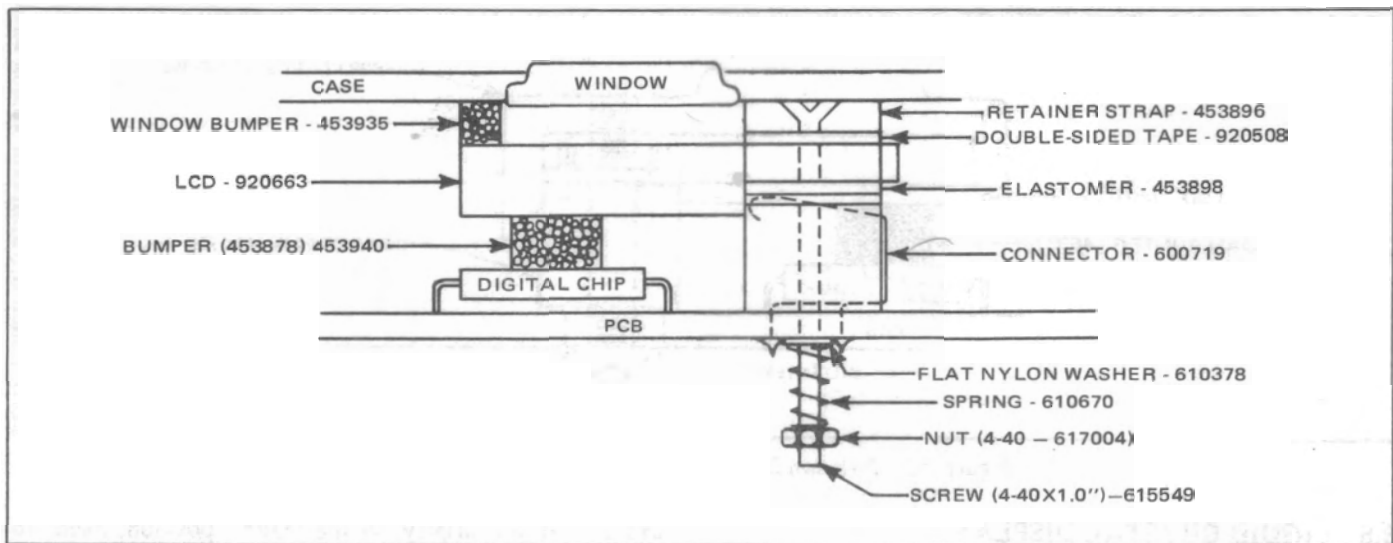

Figure 3.3 - LCD Retainer Connector Detail Drawing
3.6.3 In June '74, the LCD window was replaced with a plastic retaining strap to capture the LCD. A conductive rubber strip (elastomer) was inserted between the LCD connector and LCD contact area to insure electrical contact, equalize the capture pressure of the new retaining strap, and increase the LCD ability to absorb more impact. The LCD window became part of the meter case. See Figure 3.3.